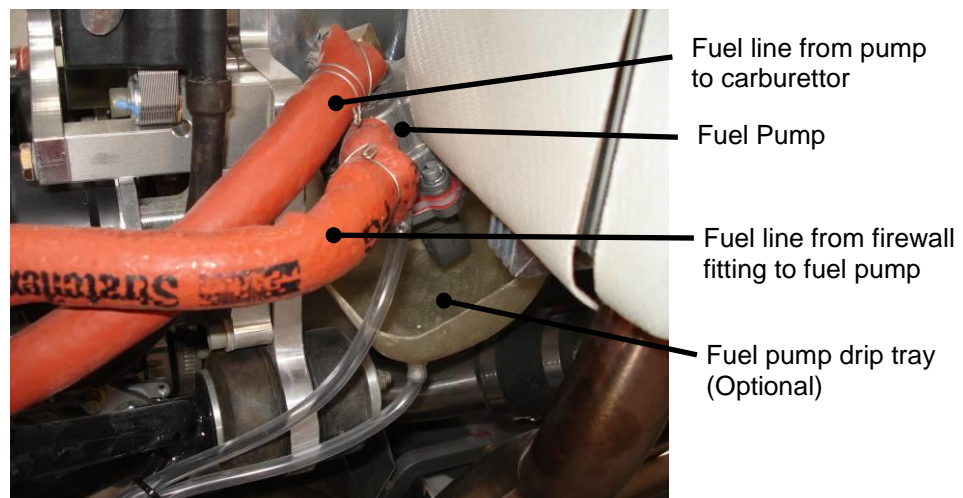

Figure 25. Mechanical Fuel Pump
- Some airworthiness categories also require an additional drip tray be fitted to the fuel pump. This optional tray is shown in Figure 25.
- All hoses forward of the firewall require fire resistant sheathing (visible as an orange covering on the fuel lines in Figure 25 above). Note that wherever possible the sheathing should be extended past the hose clamp. The ends of the sheath must be held in place using safety wire to prevent the sheathing moving and exposing the fuel line.